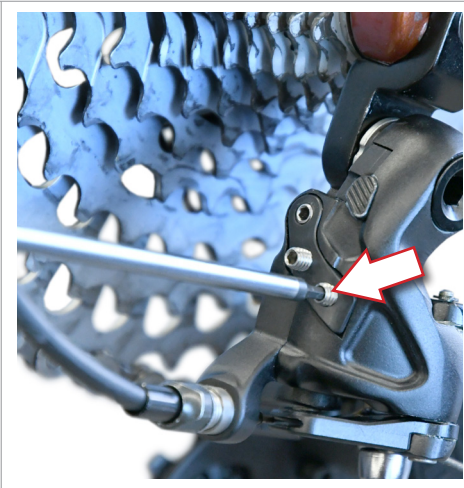

Fig.23
- Check that when the shifter is actuated accordingly, the rear derailleur positions the chain on the largest sprocket; if this does not occur, turn the screw (Fig. 23) repeatedly (slackening it until the chain is positioned on the largest sprocket without overshifting).